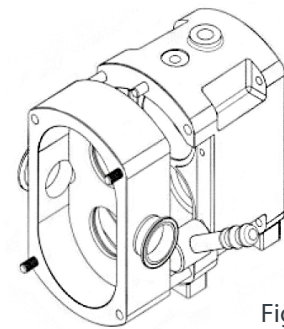

Figure 7
- b) Slide the pump housing away the gearbox. If the housing is stuck, alternately tap on the inlet and outlet ports with a soft-faced hammer (Figure 7).